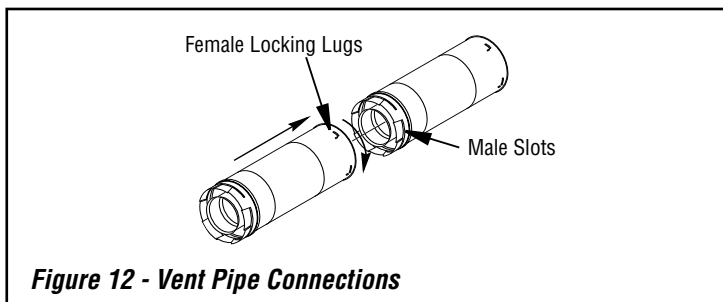

Figure 12 - Vent Pipe Connections
Twist-Lock Procedure: Female ends of pipes have locking lugs (indentations). These lugs will slide straight into matching slots on male ends of adjacent pipes. Push pipe sections together and twist one section clockwise approximately one-quarter turn until sections are fully locked (see **Figure 12, Page 19**).
3. Assemble desired lengths of pipe and elbows necessary to reach from fireplace flue up through firestop. Be sure all pipe and elbow connections are fully twist-locked (**Figure 12, Page 19**).